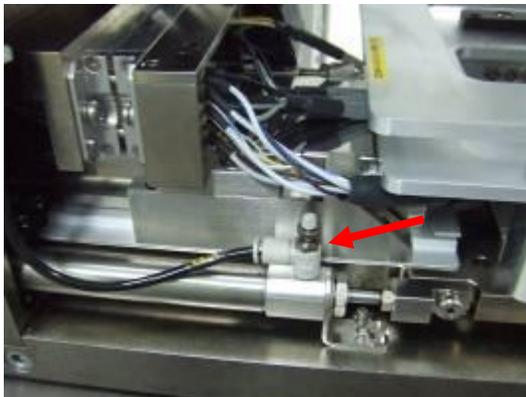

Figure 37: loosening the knob of the fittings
- Fully loosening the knob of the fittings as shown in Figure 37 by rotating the knob in anti-clockwise direction so that maximum air can enter the cylinder.